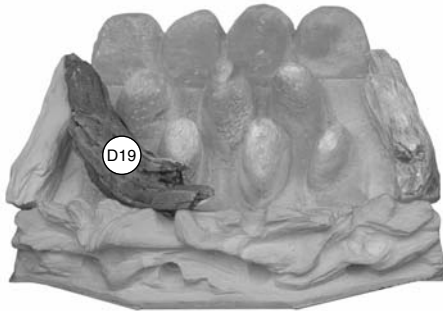

Fig. 58
6. Following Figs. 58 to 64, place the loose driftwood pieces onto the fuel bed. It is important that the driftwood 'nests' together and sits on top of the fuel bed peaks.